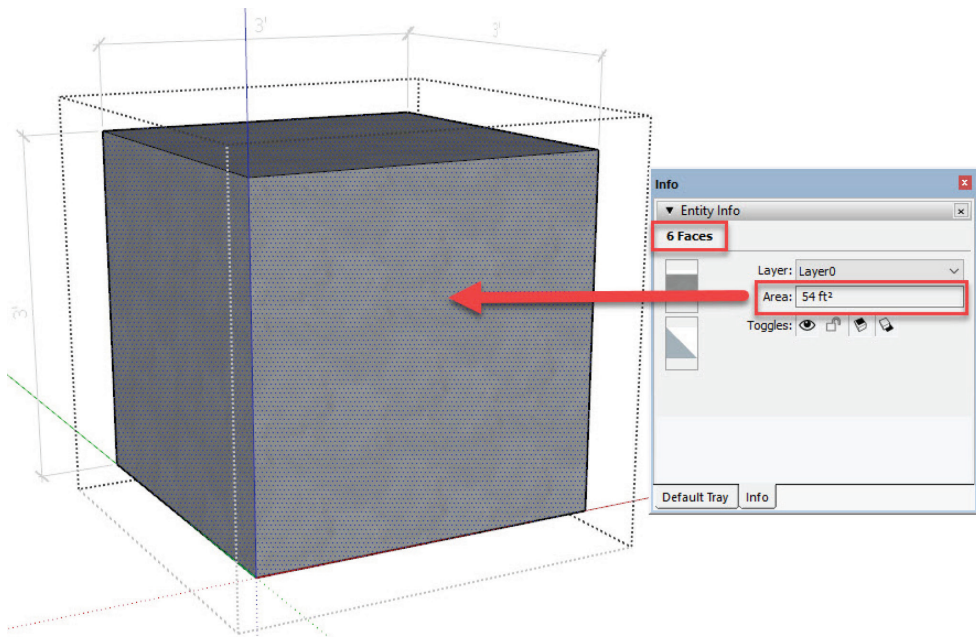

Figure 18.8 Total Area.
In the image above, there is one face selected (highlighted in blue). A check of Entity Info shows Area = 9 SF. Now, as you continue to select faces, Entity Info will display the total square feet (SF) of selected faces. If you want to display all faces of this cube, you can Select All (Ctrl+A), which will select all edges and faces, then right-click and choose Select Only > Faces. The image in Figure 18.8 shows the current selection of all of the faces.